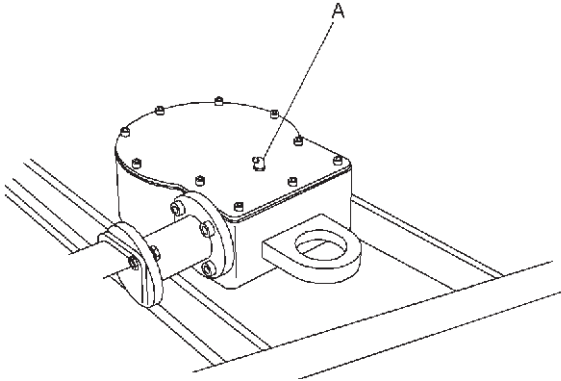

Figure 7-6. Circle Drive Lubrication Point
Lubricate the following points. Refer to Figure 7-6.
1. Rotate hub until Oil Level bolts are in horizontal position, see Figure 7-6